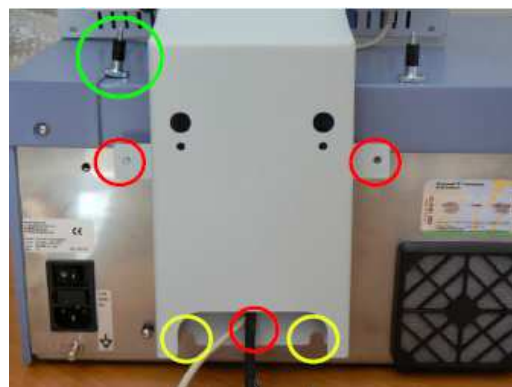

Fig. 4: Green: safety screw .Yellow: Holes to hold the screen. Red: insertion zone of the screws
2. Lean the screen over the reader fitting the screws with the positions marked in yellow. Insert the safety locking screws recently removed (green circles, below) in the positions marked in red (Fig. 4)